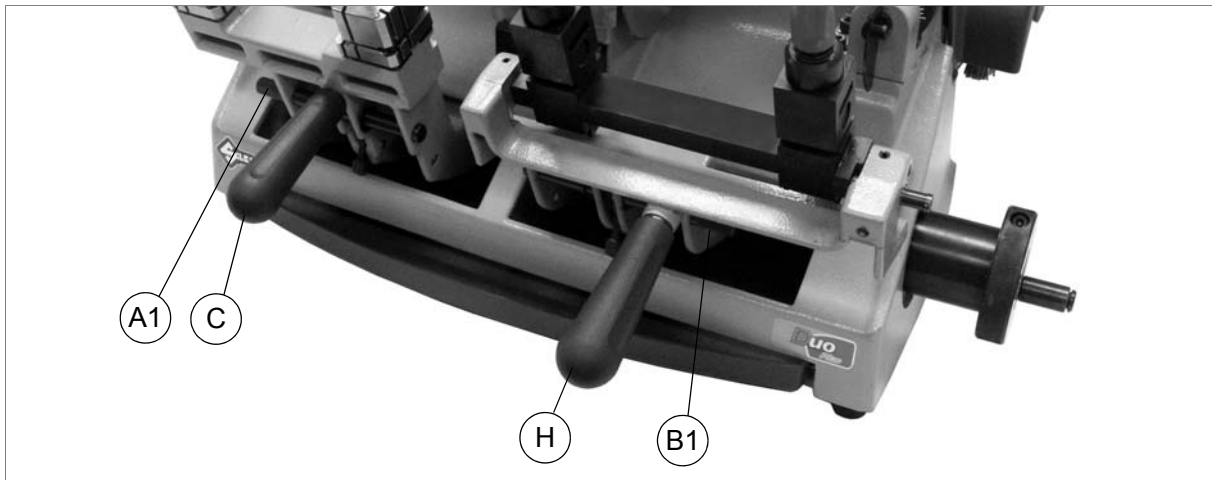

Fig. 25
- turn the carriage lock/release pin to the right (A1 or B1) (fig. 25).